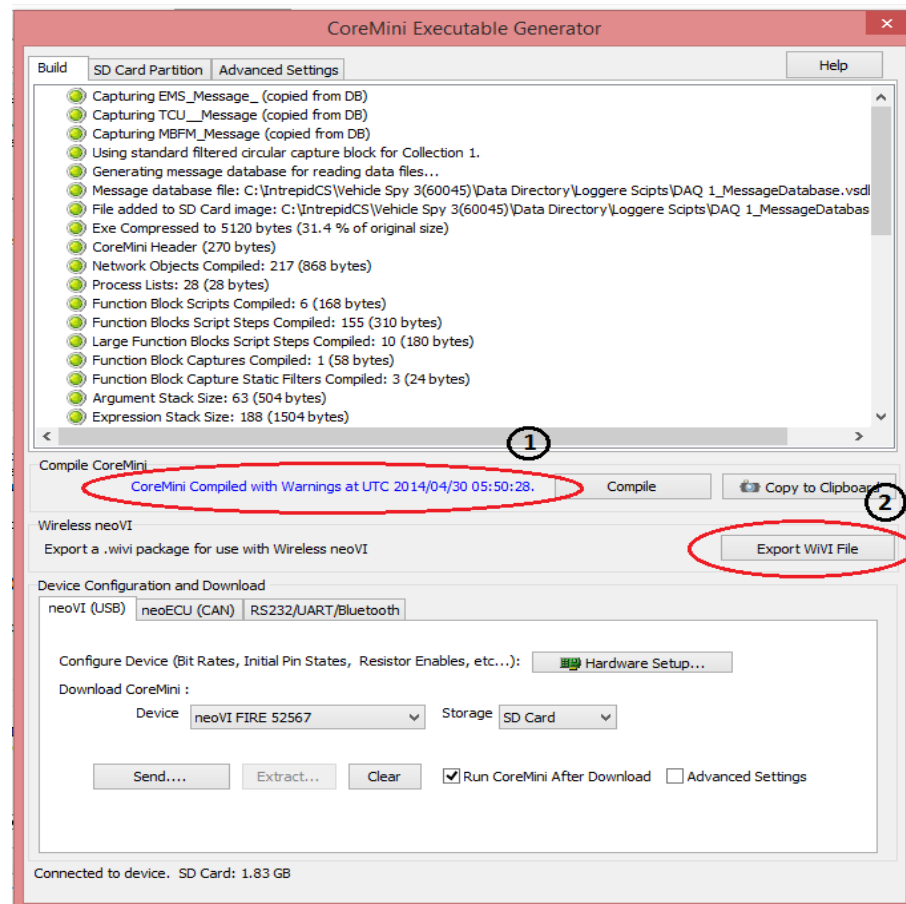

Figure 14: Settings for compiled Wivi file
- Make sure that coremini compiled without error (Figure 14 (1)).
- Click on 'Export wivi file' option (Figure 14 (2)). It will export wivi file then Save file in destination folder